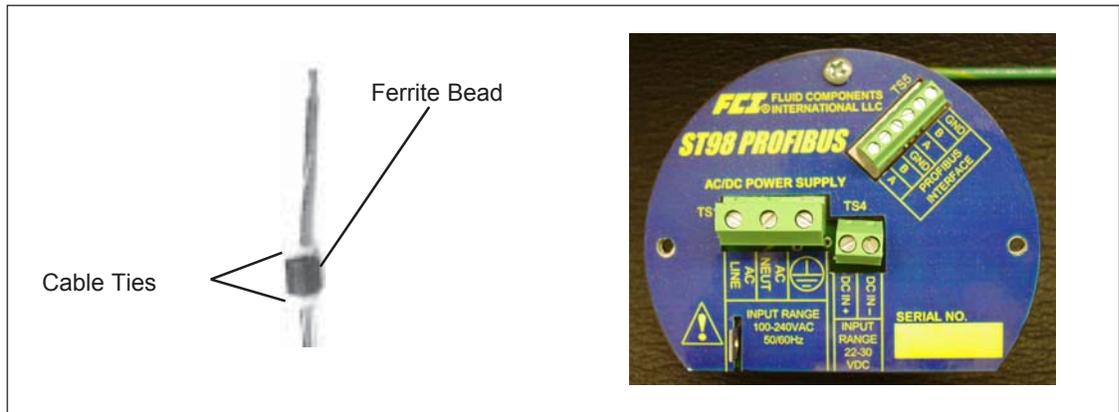

Figure 6. Customer Connection Board
3. Connect the digital/communication cables to TS5 (see Figure 6) located on the customer interface board. The Profibus connector is labeled with A and B lines for in and out as well as a cable shield termination. The ST98 has no integrated terminating resistors. An external termination resistor network needs to be added at the end of the segment if the ST98 is the last instrument in the segment.
4. Connect the operating power to the customer termination board by removing the input wiring kit from the strain relief bracket (see Figure 6 for the bracket location). This kit contains a filter bead and three cable ties. For remote instruments only, the kit also contains 2 wire terminals for a ground wire to be placed between the flow element enclosure and the electronics enclosure.
6. Put the filter bead over the safety ground wire shown in Figure 6. Use 2 cable ties to secure the bead. The last cable tie should be about 3 inches from the end of the wire.
7. Attach the power wires to Terminal Strip TS1 (for AC) or TS4 (for DC) as shown in Figure 6. Secure the wires going to the Terminal Strip with a cable tie, secured to the cable tie bracket on the customer connection board.
CAUTION: Remote Configuration Only: Be sure an earth ground wire is connected between the ground terminal (see Figure 6) and the ground screw in the local enclosure. This is for the purpose of safety.
6. Attach the filter bead over the safety ground wire as shown in Figure 6 using 2 cable ties to secure the bead on the wire. The last cable tie should be about 3 inches from the end of the wire.
CAUTION: Be sure a grounded wire is connected between the ground terminal (see Figure 6) and ground screw in the local enclosure. This is for the purpose of safety.